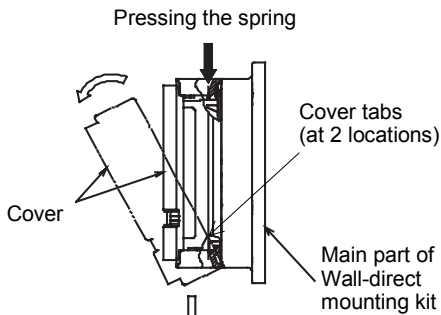

Figure 8. Removing/installing the cover
- 5) Place the cover back on the Neosensor main unit to complete the installation procedure. (See Fig. 8.)
- 5) Reinstall the cover to the main unit to complete the installation procedure. (See Fig. 8)
- 6) Place the cover back on the Neosensor main unit to complete the installation procedure. (See Fig. 8.)